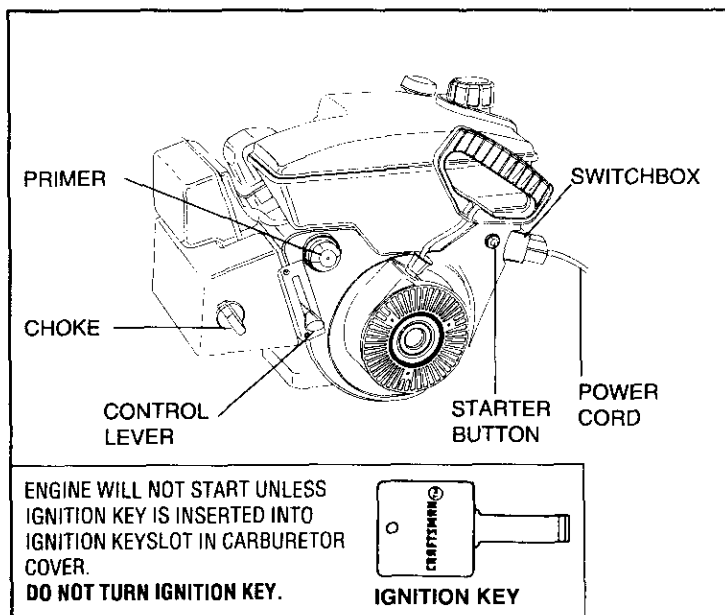

Figure 3
- ② **ELECTRIC STARTER - 120 VOLT A.C.** (see Figure 3):
ELECTRIC STARTER (Continued - see Figure 3):
- Move engine CONTROL LEVER (see Figure 3) to "FAST".
- Move engine CHOKE (see Figure 3) to "OFF".
- Connect POWER CORD to SWITCHBOX (see Figure 3).
- Push STARTER BUTTON (see Figure 3) to crank engine.
① BEFORE STOPPING (see Figure 3):
② STOP ENGINE (see Figure 3):
③ AFTER ENGINE IS STOPPED (see Figure 3):